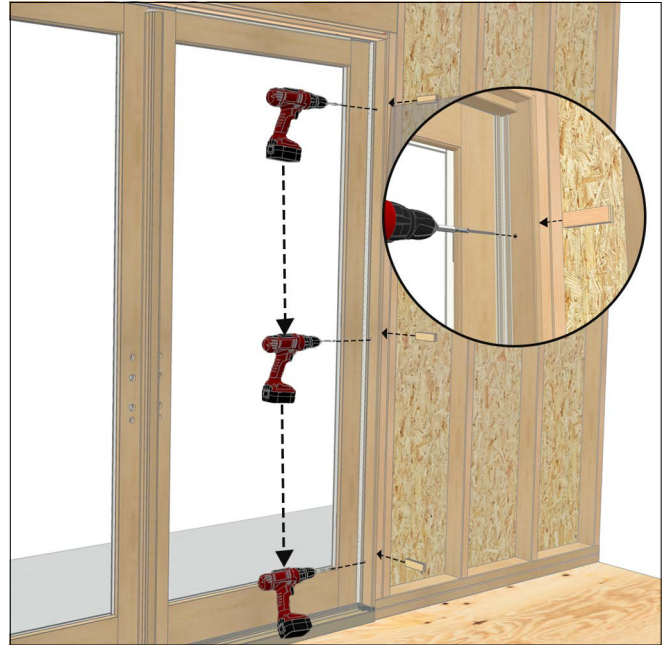

Figure 2
2. Install top and bottom through jamb screws and shim. Do not over tighten screws as they may cause deformation of the liner. See Figure 2.